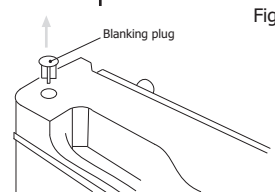

Fig 8
- Prise the blanking plug out of its hole in the top edge of the door (Figure 8). Push the plug into the hole in the opposite corner of the top edge of the door.